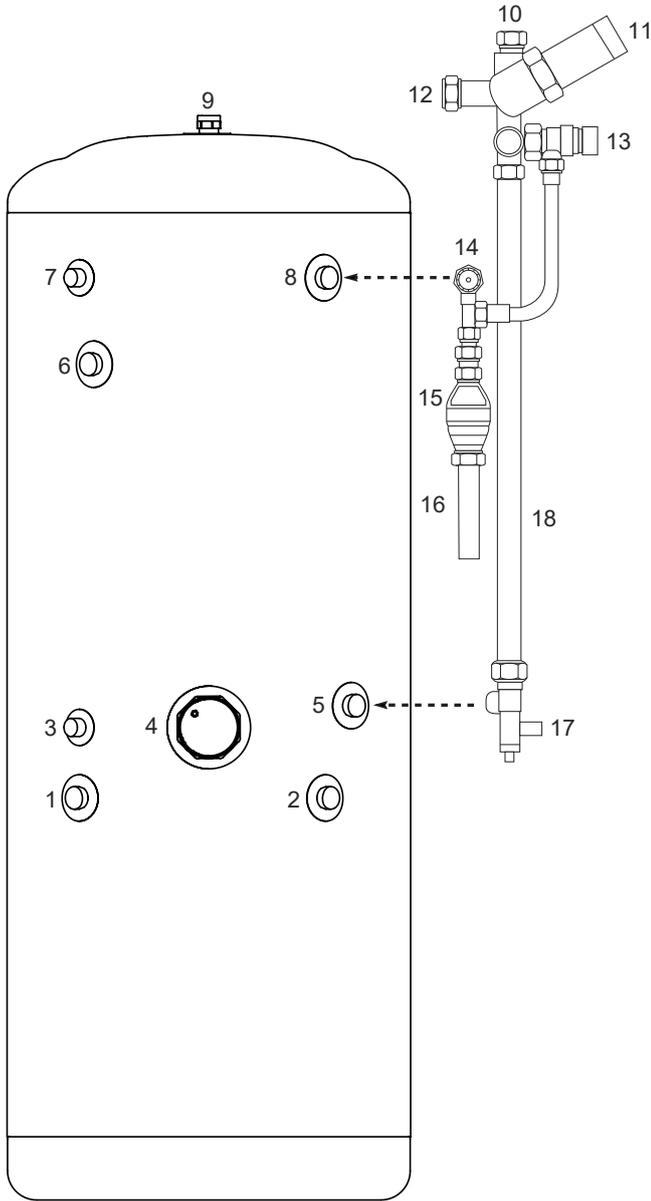

Figure 2-4: Grant QRSC and QRSCSL cylinders
Table 2-10: Grant QR indirect heat pump cylinder connections and controls (key to Figures 2-4 and 2-5)
2. Locate the dual thermostat/s in the stainless steel pocket/s (refer to Figures 2-4 and 2-5, as appropriate, for location) and secure using the retaining screws on the thermostat housing.
The ½" drain cock (supplied in the kit) must be fitted in the cold feed to the cylinder to provide a means of draining the unit. Refer to Figures 2-4 or 2-5 (as appropriate) for a suitable drain cock position that will enable most of the cylinder to be drained off when required.